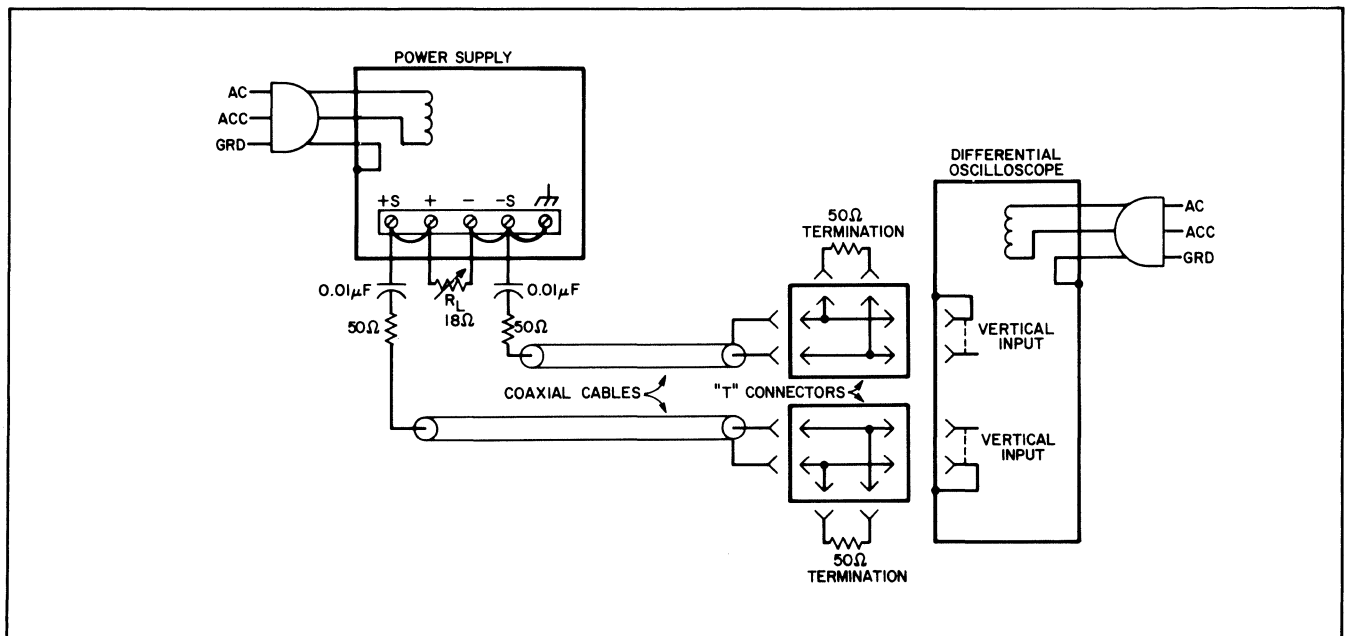

Figure 5-4. Constant-Voltage Noise Spike Measurement Test Setup
5-28 Figure 5-4 shows the test setup used to measure noise spikes. Two coaxial cables must be used. Impedance-matching resistors must be included to eliminate standing waves and cable ringing, and capacitors must be connected to block dc. The length of the test leads outside the coaxial cable should be kept as short as possible.
- Connect the test setup shown in Figure 5-4.
5-30 The circuit of Figure 5-4 can also be used for the display of low-frequency ripple. Simply remove the four terminating resistors and the blocking capacitors and substitute a higher-gain vertical plug-in for the wide-band plug-in required for spike measurements.